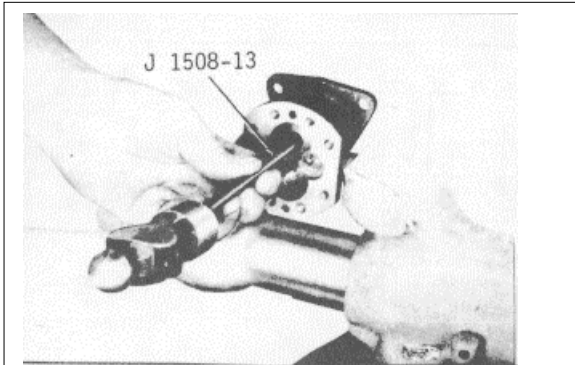

Fig. 6
- (5) Remove the relief valve plug and copper gasket.
- (6) Remove the valve spring, pin and relief valve from the valve cavity in the pump body.
- (7) If the oil seals need replacing, remove them with oil seal remover J 1508-13 (Fig. 6). Clamp the pump body in a bench vise and tap the end of the tool with a hammer to remove the outer and inner seals.